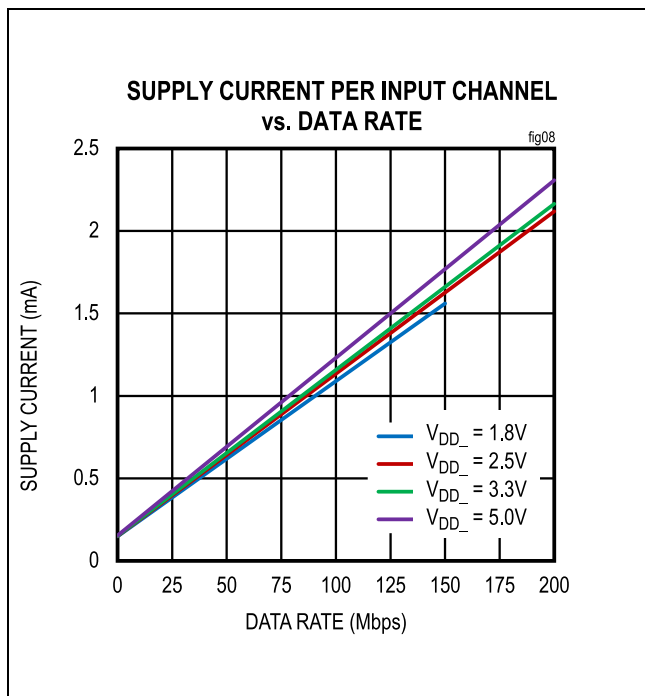
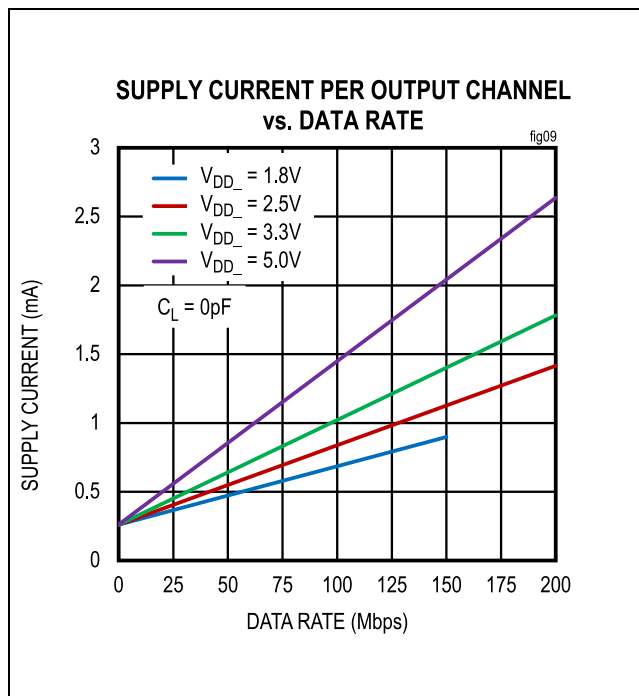

Figure 8. Supply Current per Input Channel (Estimated)
Figure 9. Supply Current per Output Channel (Estimated)
The required current for a given supply ( $V_{DDA}$  or  $V_{ddb}$ ) can be estimated by summing the current required for each channel. The supply current for a channel depends on whether the channel is an input or an output, the channel's data rate, and the capacitive or resistive load if it is an output. The typical current for an input or output at any data rate can be estimated from the graphs in Figure 8 and Figure 9. Note that the data in Figure 8 and Figure 9 are extrapolated from the supply current measurements in a typical operating condition.
The total current for a single channel is the sum of the no load current (shown in Figure 8 and Figure 9), which is a function of voltage and data rate, and the load current, which depends on the type of load. Current into a capacitive load is a function of the load capacitance, the switching frequency, and the supply voltage.
- Channel 1 is an output channel operating at 2.5V and 100Mbps, consuming 0.84mA, estimated from Figure 9.
- Channel 2 is an input channel operating at 2.5V and 20Mbps, consuming 0.35mA, estimated from Figure 8.
Channel 1 is an input channel operating at 3.3V and 100Mbps, consuming 1.16mA, estimated from Figure 8.
- Channel 2 is an output channel operating at 3.3V and 20Mbps, consuming 0.41mA, estimated from Figure 9.